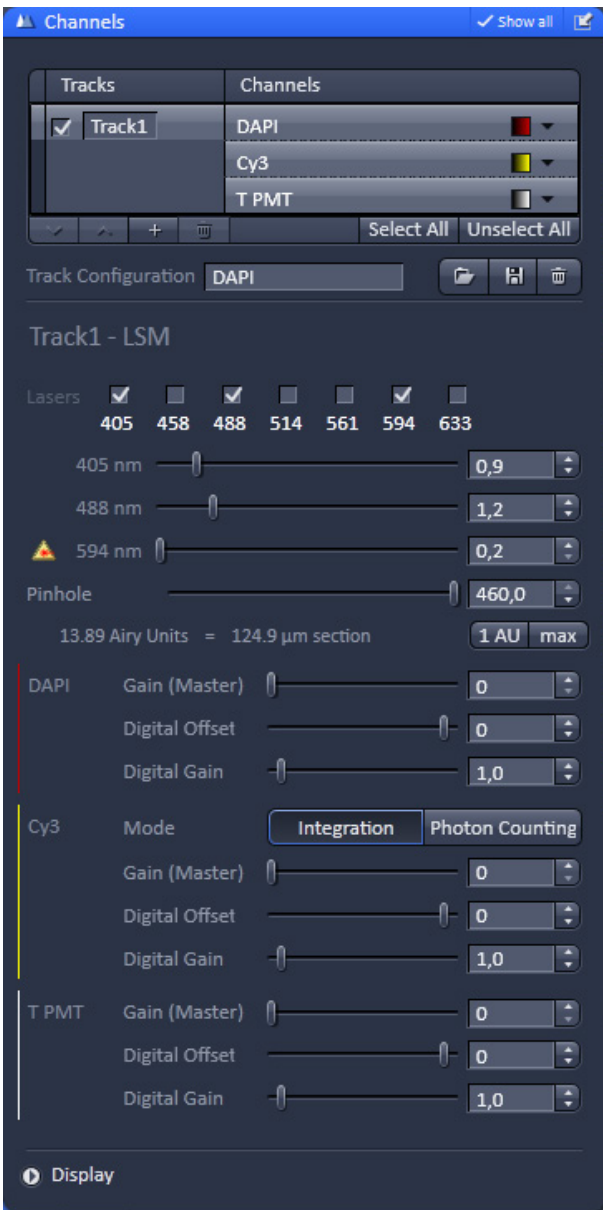

Fig. 25 Channels tool
- Set the **Pinhole** to **1** Airy Unit (Fig. 25).
- When the image is saturated, reduce AOTF transmission in the **Laser** control section of the **Channels Tool** (Fig. 25) using the slider to reduce the intensity of the laser light to the specimen.
- Increase the **Digital Offset** until all blue pixels disappear, and then make it slightly positive (Fig. 25).